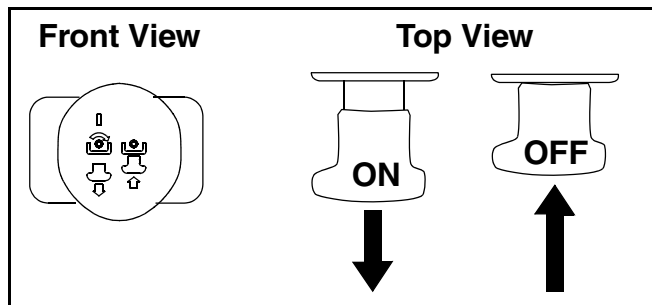

Figure 9
- Pull the PTO/Blade Engage knob outward into the engaged (ON) position. See Figure 9.
**IMPORTANT:** With the ignition key in the **NORMAL MOWING** position, the PTO clutch will automatically shut off if the PTO (Blade Engage) knob is moved into the engaged (ON) position with the the drive pedal in position for Reverse travel. Refer to **Safety Interlock Switches** on page 15.